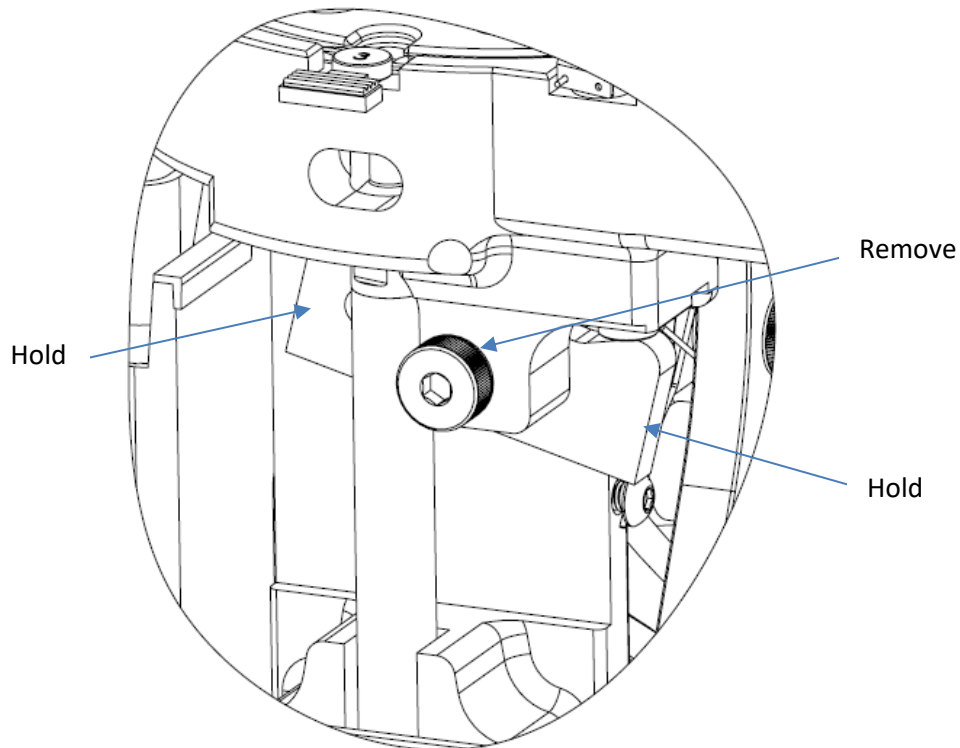
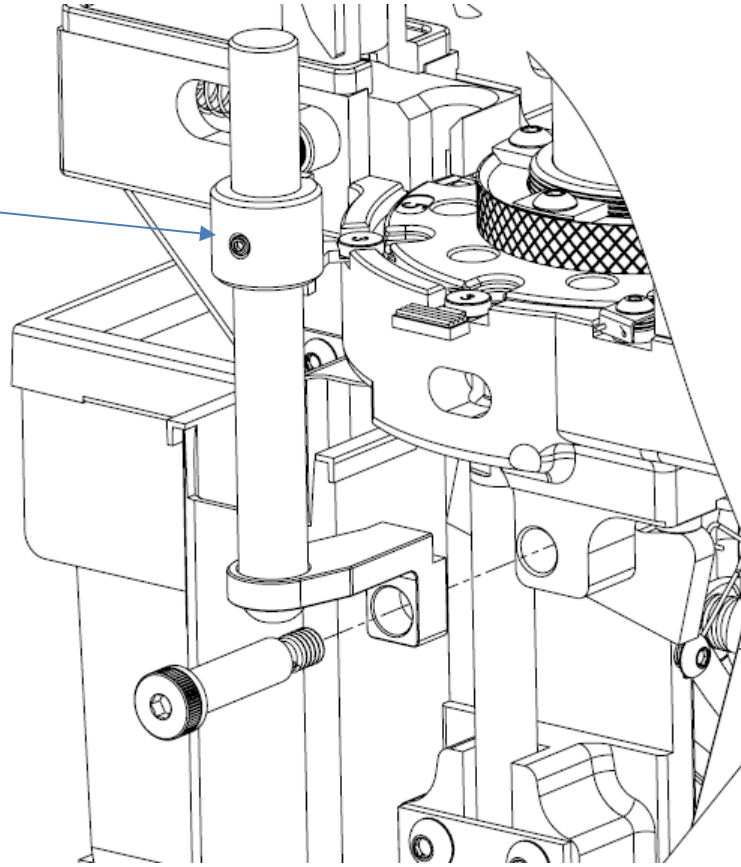

Figure 5: Remove the shoulder bolt to mount on station 8 adapter.
Figure 6: Mounting station 8 adapter to the RL1100 frame.
2. Hold the primer rocking assembly in place with your finger or a pry bar and remove the shoulder bolt, see Figure 5. Place the split washer on the longer shoulder bolt supplied with the Station 8 hardware and fasten the mount to the frame, see Figure 6.
3. Slide the mirror onto the rod in the orientation shown in Figure 6. Gently tighten the set screw to hold the assembly in place until the next step. The mirror needs to be aligned with the diode so keep the mount snug but not fully tight at this stage.